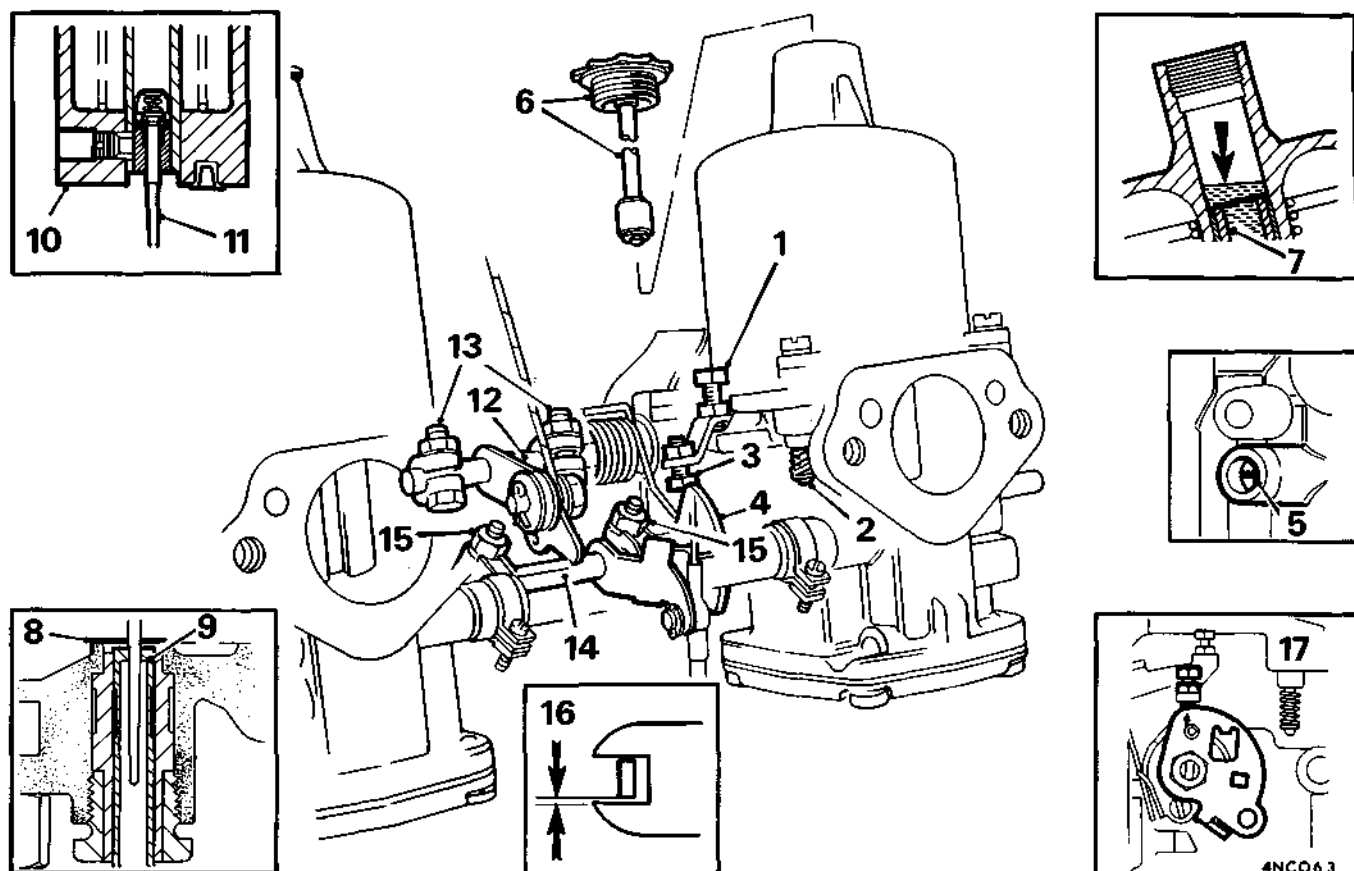

Fig. D.13
- Unscrew and withdraw the piston dampers from the suction chambers. Top up with new engine oil (preferably S.A.E. 20) until the level is  $\frac{1}{2}$  in. (13 mm.) above the top of each hollow piston rod (see Fig. D.13). Refit the damper assemblies.